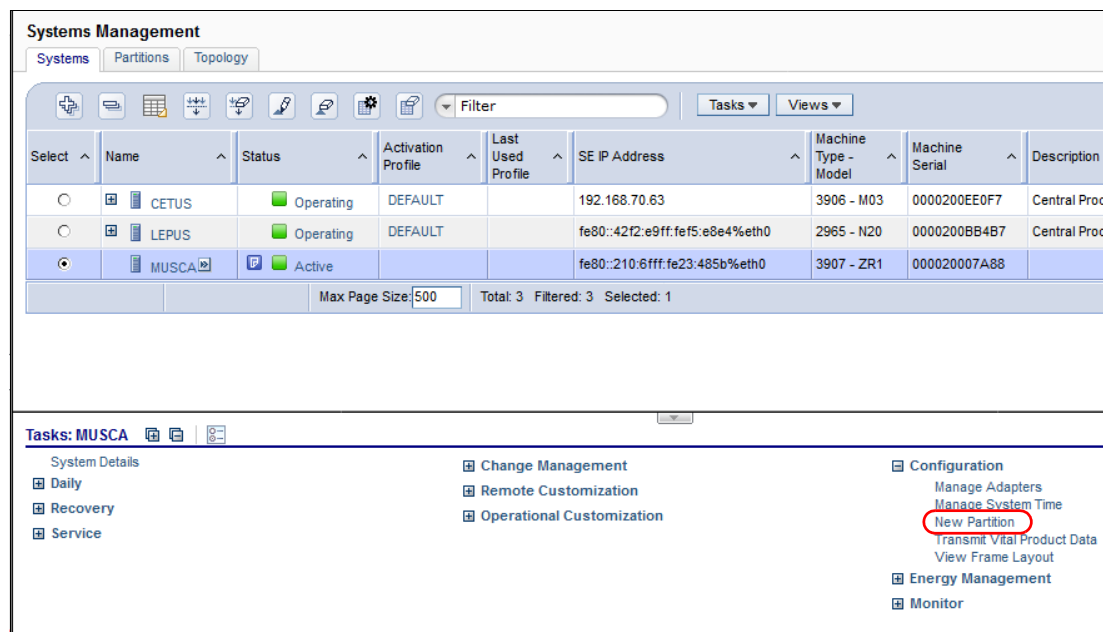

Figure 16-28 New Partition task selection
1. To configure a partition, we start with the Systems Management interface on the HMC, select the CPC to be configured. Then, in the Tasks pane, we select **New Partition**, as shown in Figure 16-28.